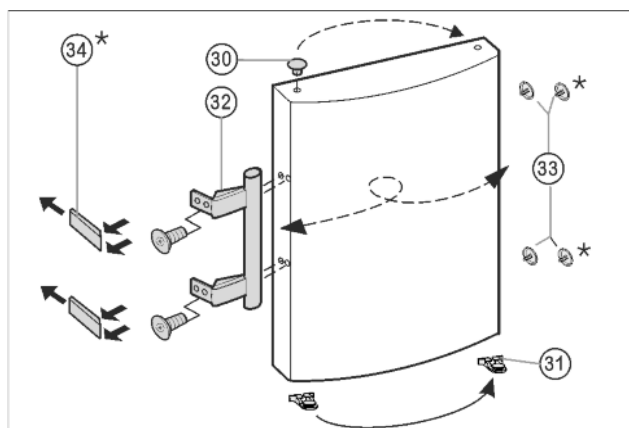

Fig. 9
- ▶ Lift the stopper *Fig. 9 (30)* out of the door bearing bush and transfer it.
- ▶ Detach door handle *Fig. 9 (32)*, stopper *Fig. 9 (33)* and pressure plates *Fig. 9 (34)* and transfer to the opposite side.